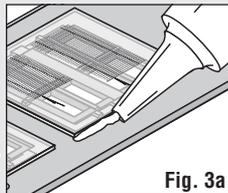

Fig. 3a
- Cut Clear Window Material to size. Align over corresponding windows on inside of Building. Dab a small amount of glue carefully around edges (**Fig. 3a**).